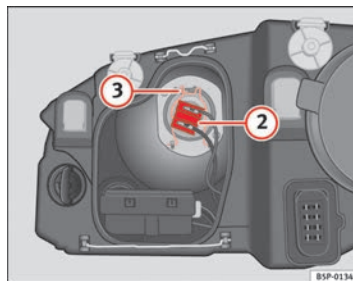

Fig. 187 Dipped head-lights
- Remove the connector ⇒ page 268, fig. 187 ② from the bulb.
- Disengage the retainer spring ⇒ page 268, fig. 187 ③ pressing inwards to the right.